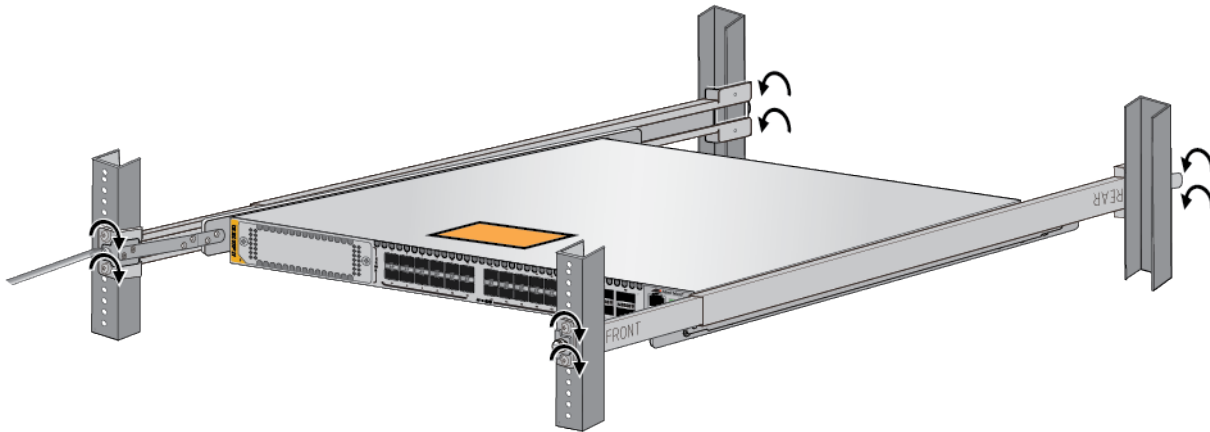

Figure 121. Tightening the Screws on the Outer Rails
5. Finish tightening the eight screws on the outer rails to secure the rails to the equipment rack. See Figure 121.